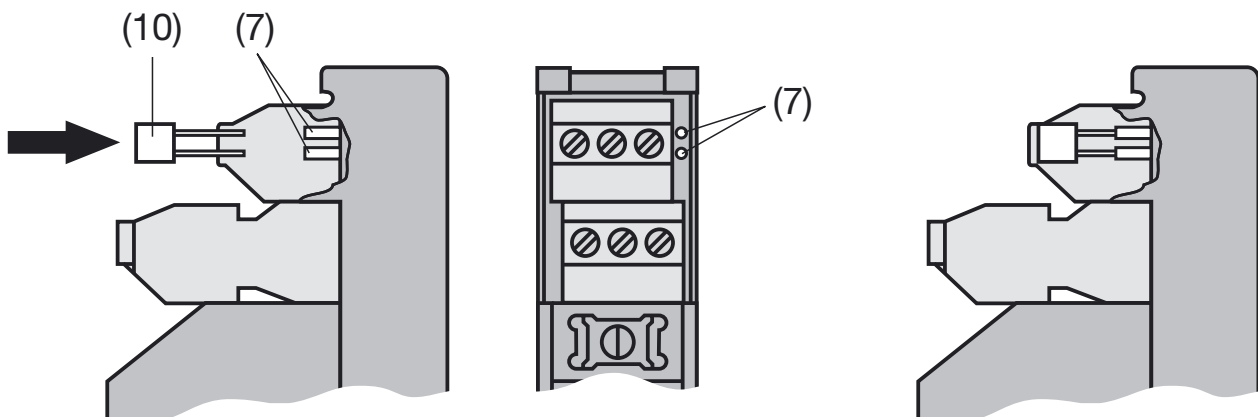

Fig. 7. Plug the compensating resistor Ni 100 (10) into the connector (7) on the backplane.
Hold the Ni 100 (10) with tweezers of appropriate size and insert the connection wires into the socket (7) (Fig. 7).
² Plug the Ni 100 acc. to Fig. 7 of this operating manual.